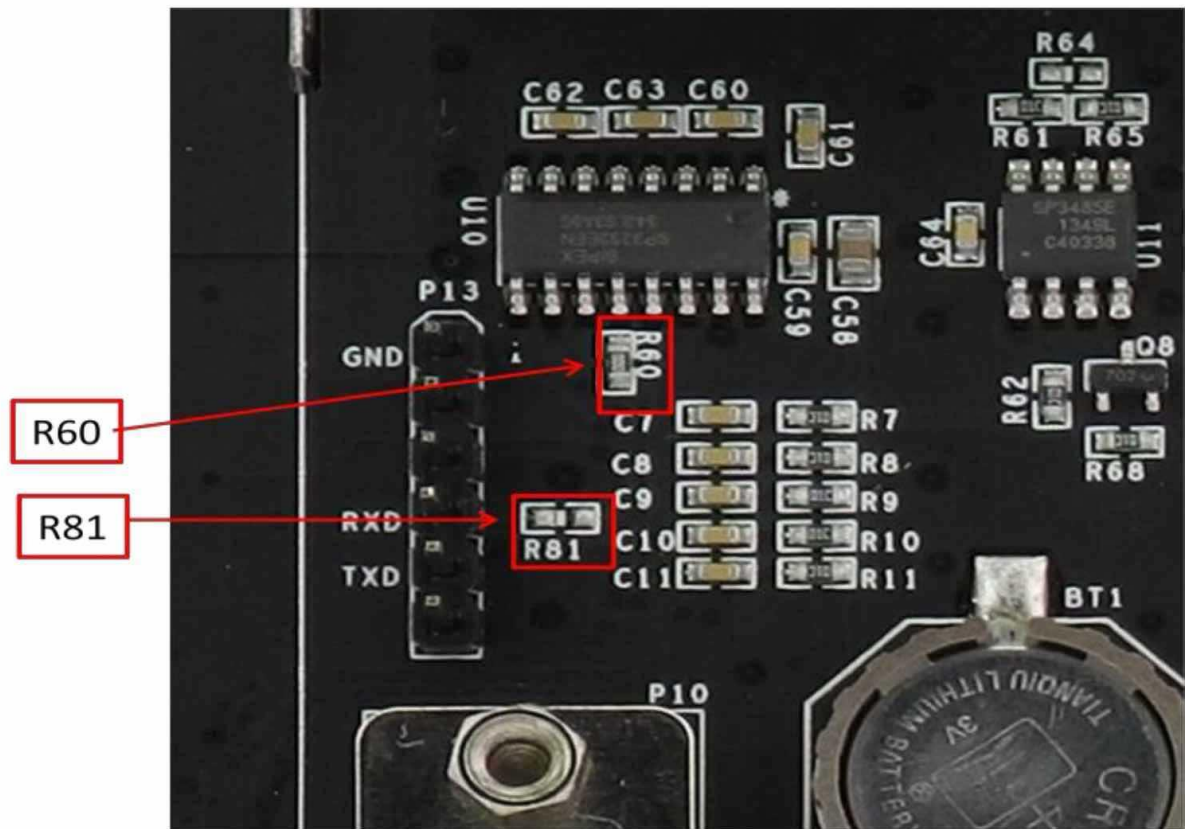

Figure 10
1. COM0 signal have been connect out from Beaglebone Black for customer to debug. This product connect COM0 to P13 directly, it use 3.3V TTL logic. And it product also change the COM0 signal to RS232 level at the same time, then connect the RS232 signal to P10 and P11. **Be Attention**, The COM0 RXD signal connect to RS232 Level circuit by default, and not connect to P13. That means if you monitor COM0 debug signal from P13, you can receive message from the system, but you can't input any message to the system. If you want to use P13 to input signal to system, please remove **R60**, and solder the **R81** with 0 Ohm 0603 package resistor,As Figure 10 shows: